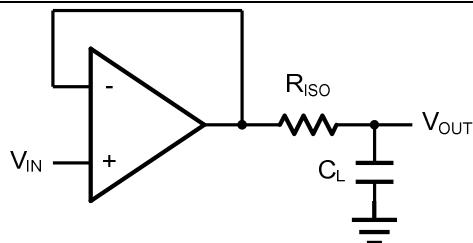
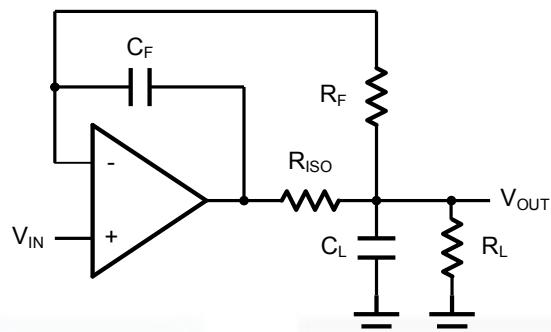

Figure 2. Indirectly Driving a Capacitive Load Using Isolation Resistor
Figure 3. Indirectly Driving a Capacitive Load with DC Accuracy
The GS833x family is optimized for bandwidth and speed, not for driving capacitive loads. Output capacitance will create a pole in the amplifier's feedback path, leading to excessive peaking and potential oscillation. If dealing with load capacitance is a requirement of the application, the two strategies to consider are (1) using a small resistor in series with the amplifier's output and the load capacitance and (2) reducing the bandwidth of the amplifier's feedback loop by increasing the overall noise gain. Figure 2. shows a unity gain follower using the series resistor strategy. The resistor isolates the output from the capacitance and, more importantly, creates a zero in the feedback path that compensates for the pole created by the output capacitance.
The circuit in Figure 3 is an improvement to the one in Figure 2. R_F provides the DC accuracy by feed-forward the V_{IN} to R_L. C_F